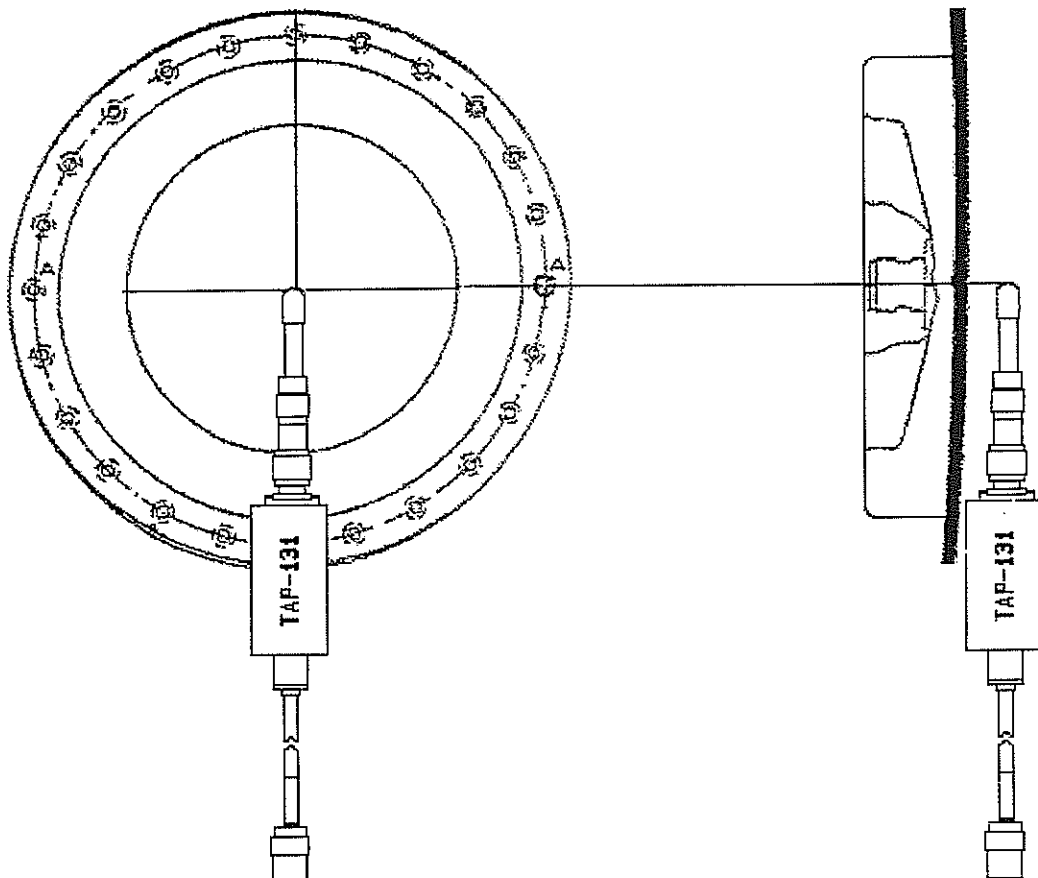

Figure E-1
The TAP-131 antenna coupler is to be used when measuring the following transponder functions: UUT transmitter power, frequency, and receiver sensitivity. Readings of these three functions are shown on the data display window, assuming all tests ran positively, as the last three blocks of the automatic interrogate scenario. If a coupler is not used, the last three scenario blocks appear blank. Note that the coupler must be positioned properly. See Figure E-1. The antenna coupler is calibrated to an AT-740/A (MIL-A-25707/A) flush mounted antenna.
1. Place the antenna coupler, TAP-131 as shown in Figure E-1.